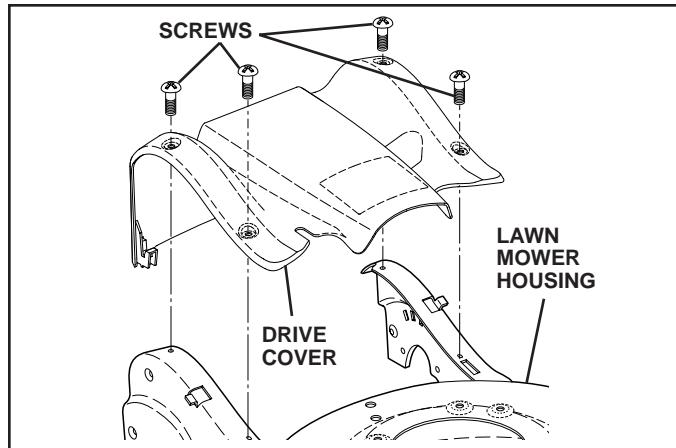

FIG. 16
## TO REMOVE DRIVE BELT (See Figs. 16–19)
2. Remove screws retaining drive cover and remove drive cover from lawn mower housing (See Fig. 16).
## TO REPLACE DRIVE BELT (See Figs. 16–19)
11. Reattach drive cover with screws previously removed (See Fig. 16).